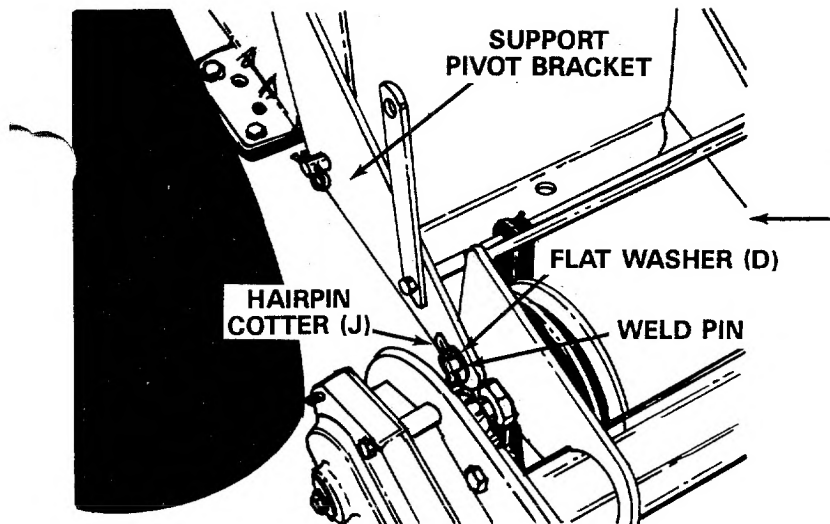

FIGURE 11
23. Secure the weld pin on the left hand side of tiller using one flat washer (D) and hairpin cotter (J). See figure 11.